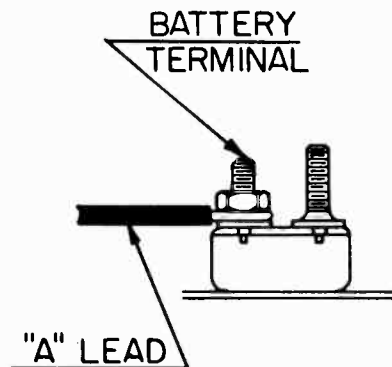

Fig. 3
10. Connect the "A" lead of the set to the battery terminal of the circuit breaker, mounted on the instrument panel brace over the steering column (Fig. 3).